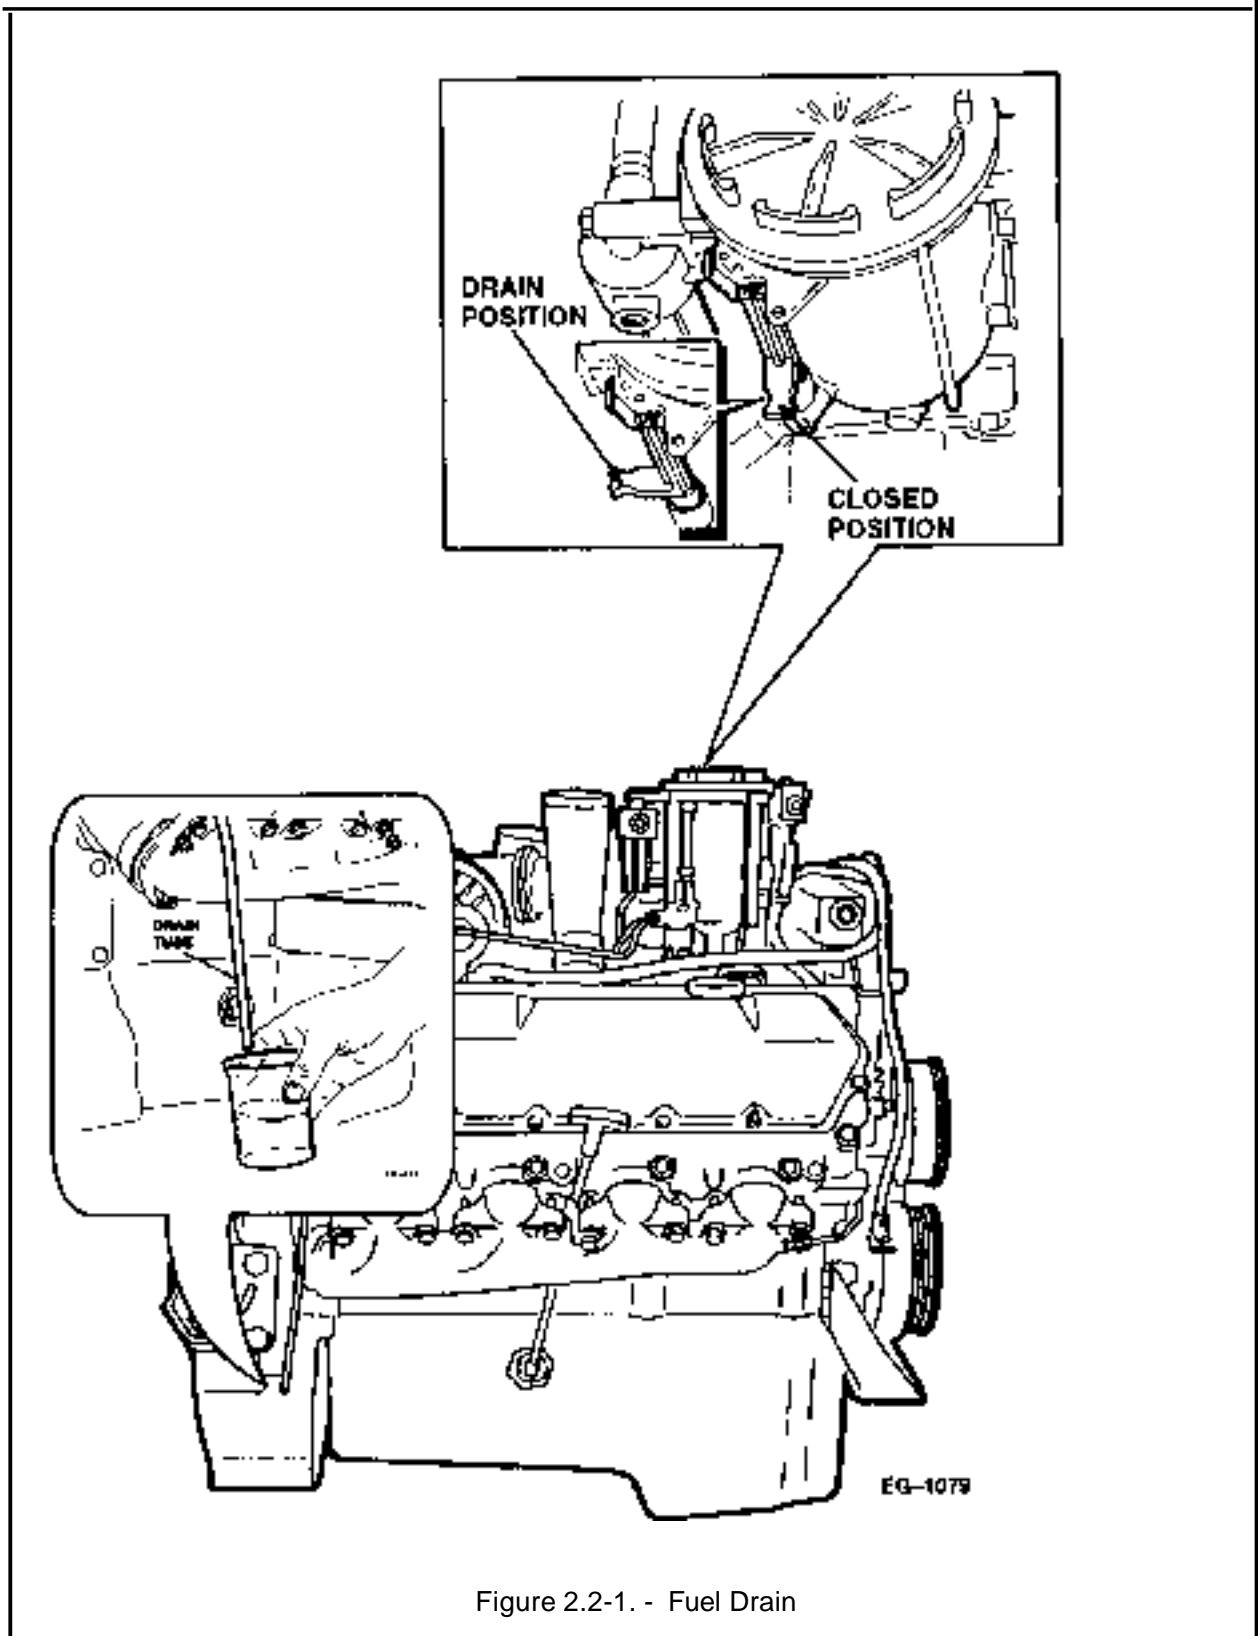

Figure 2.2-1. - Fuel Drain
1. Route a hose from the fuel drain tube (Figure 2.2-1.) to a clear container and open the drain.